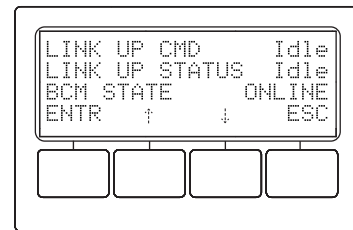
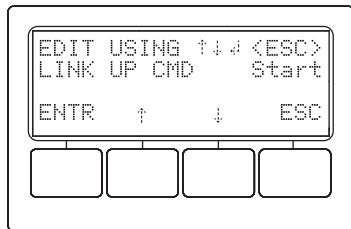

Fig. 5-30, Smart Display -
Fig. 5-31, Smart Display -
2. When the **LINK UP CMD** line is highest on the LCD (Fig. 5-30), press the **ENTR** softkey to make a change. Use the up or down arrow softkeys to change the value on the right to "Start." (Fig. 5-31) Press the **ENTR** softkey.